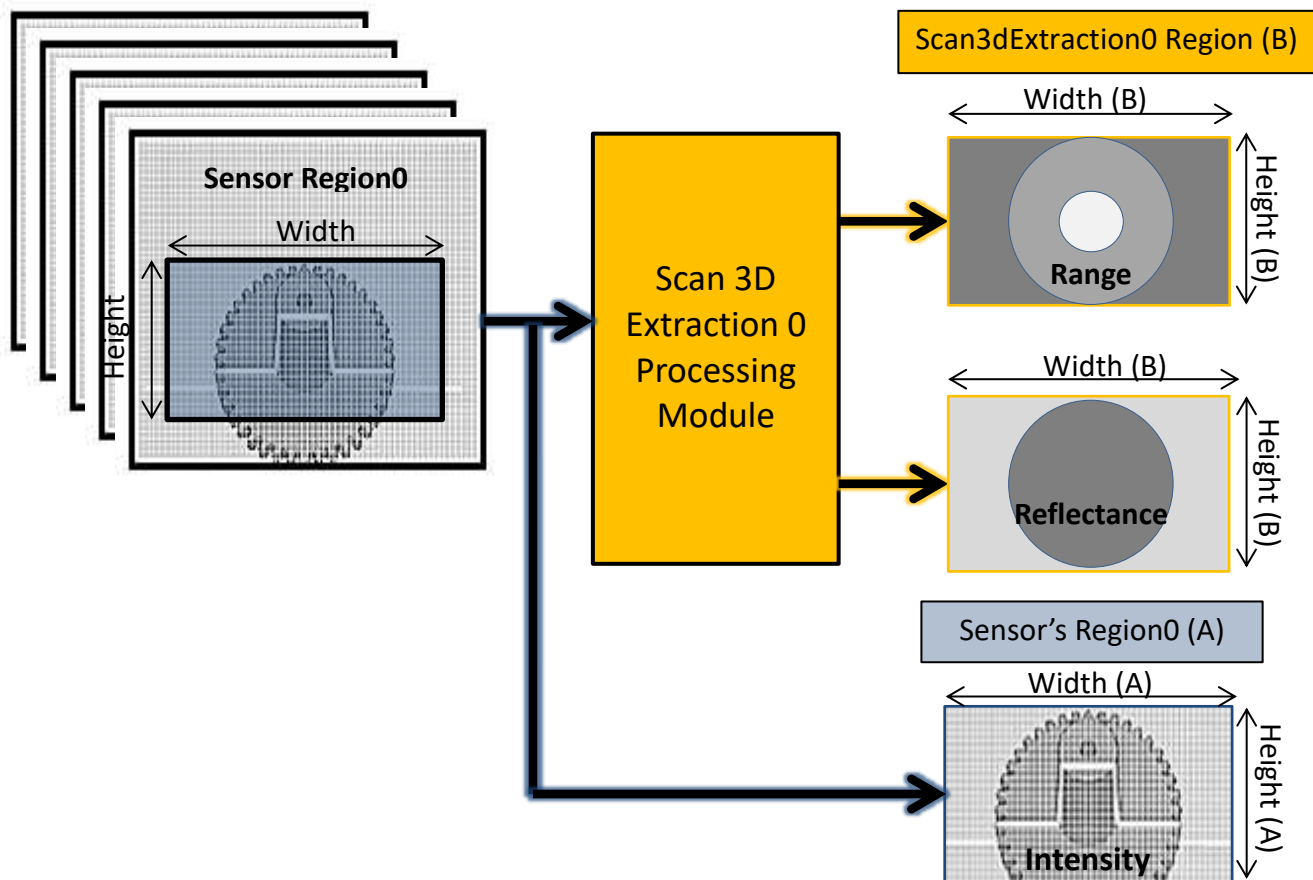

Figure 21-19: Linescan 3D device regions and components output control.
In the Figure 21-19 above, the 2D sensor's Region (A) of a Linescan 3D device is used to limit the area to analyse. A separate Scan 3D Extraction Region (B) defines the Width and Height of the 3D extraction output frame generated. The streaming of the Range, Reflectance or Intensity image components can be also enabled or disabled individually.